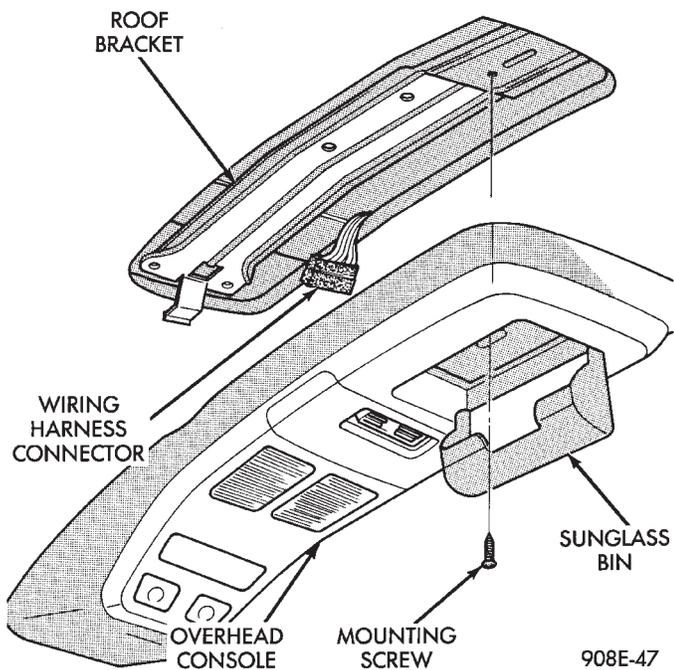

Fig. 6 Overhead Console Mounting
- (1) Unscrew the mounting screw in sun glass bin compartment (Fig. 6).
- (2) Slide console forward toward windshield until the console unhooks from roof bracket.
- (3) Disconnect wire harness from console.
- (4) For installation reverse above procedures.
- (1) Remove overhead console (Fig 6).